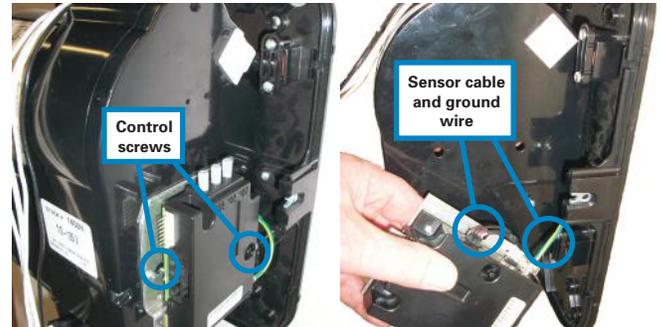

Figure 2
2. Loosen the two screws that fasten the control bracket onto the dryer and slide control with bracket off dryer. Remove screws and save them for Step 11. Locate and disconnect the Sensor by squeezing the tab while unplugging. Disconnect the green ground wire from the tab on the bracket. Place control off to the side for step 7 (Figure 2)